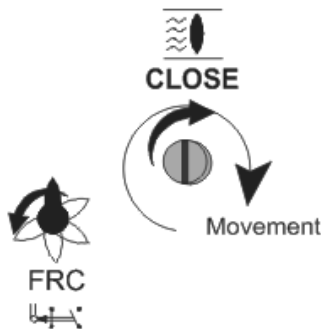
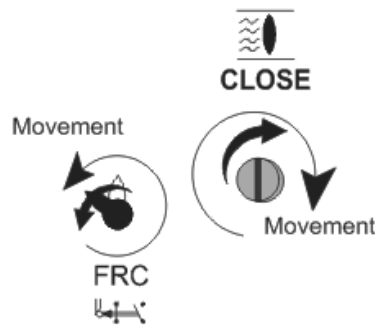

Figure 10.2-3
Figure 10.2-4
- Turn **U** spindle clockwise (Figure 10.2-3) until **Z** spindle turns Counter-clockwise (At this moment FRC microswitch triggers). Just before FRC microswitch was tripped, **Z** red arrow should be pointed to vertical: When **Z** spindle (Red arrow) turns to left the FRC microswitch is tripped (Figure 10.2-4).